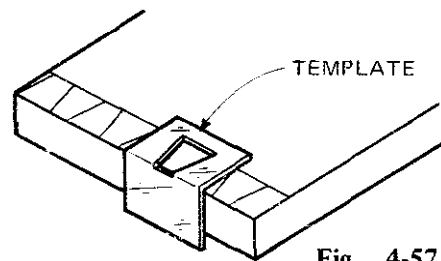

Fig. 4-57 Using a metal template to lay out duplicate parts
1. Figures 4-57 through 4-60 illustrate methods for laying out duplicate parts with a pattern, template, or an actual part.